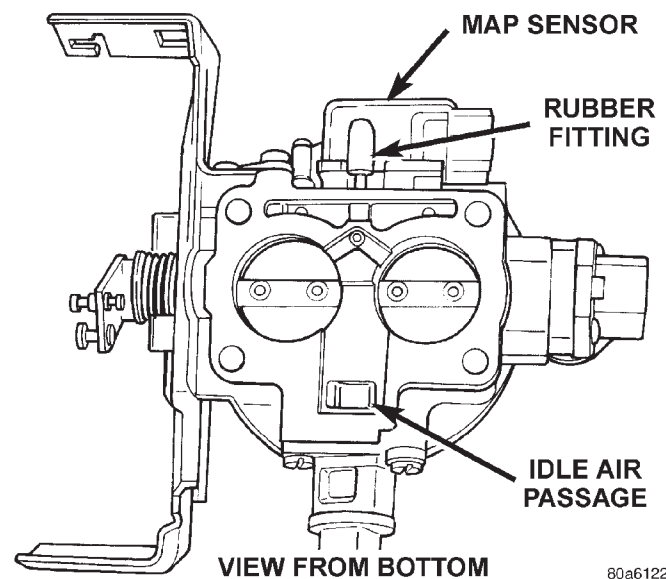

Fig. 27 Rubber L-Shaped Fitting—MAP Sensor-to-Throttle Body
- (1) Inspect the rubber L-shaped fitting from the MAP sensor to the throttle body (Fig. 27). Repair as necessary.